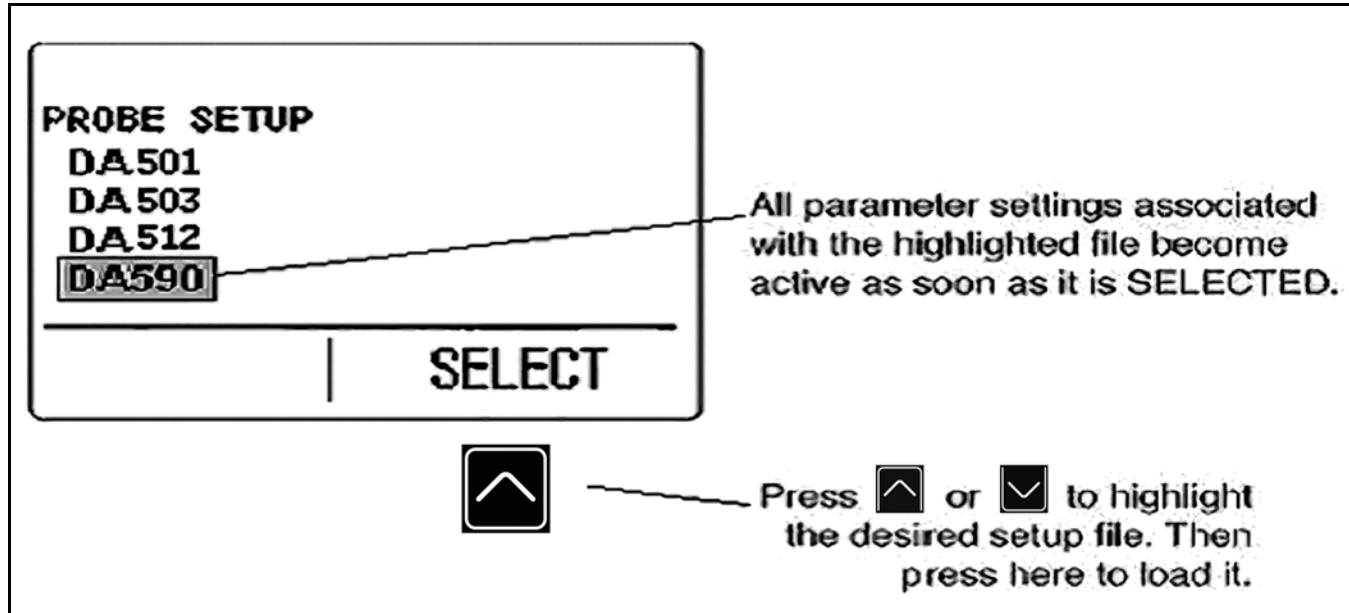

Figure 4: Probe Setup Display Mode
- **Probe Setup Display Mode** - Allows the user to select a standard preloaded instrument setup, each of which is matched to a specific probe model (see *Figure 4 on page 11*).